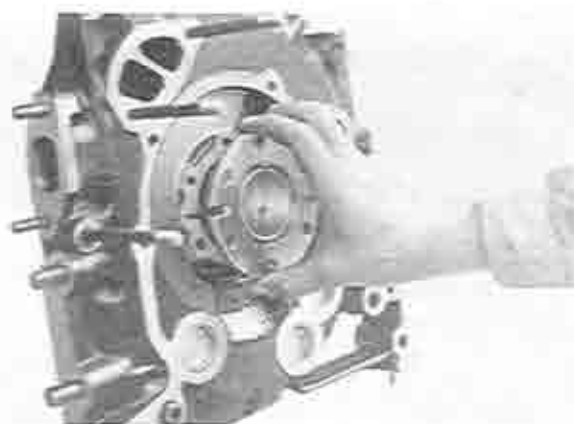

Fig. 1-36 Installing stationary gear
7. Press in the stationary gear to the housing with main bearing puller and installer (49 0813 235), aligning the slot of the stationary gear flange and the dowel pin, as shown in Fig. 1-36.